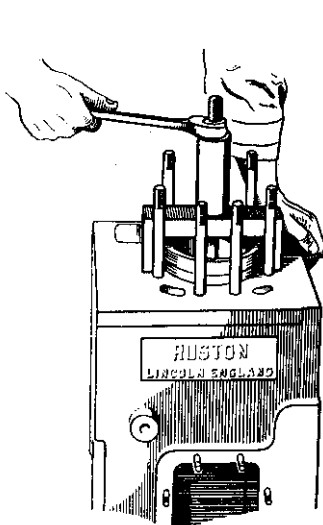
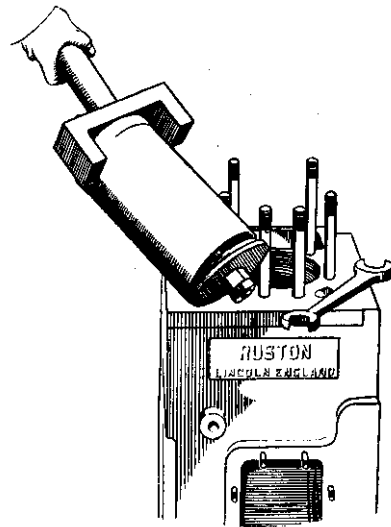

Fig. 4
Fig. 5
- iv. Lock bottom nuts together and withdraw liner by turning draw-nut, see Fig. 4—until the liner comes clear of the bottom rubber joint rings, after which it can be lifted out by hand—see Fig. 5.